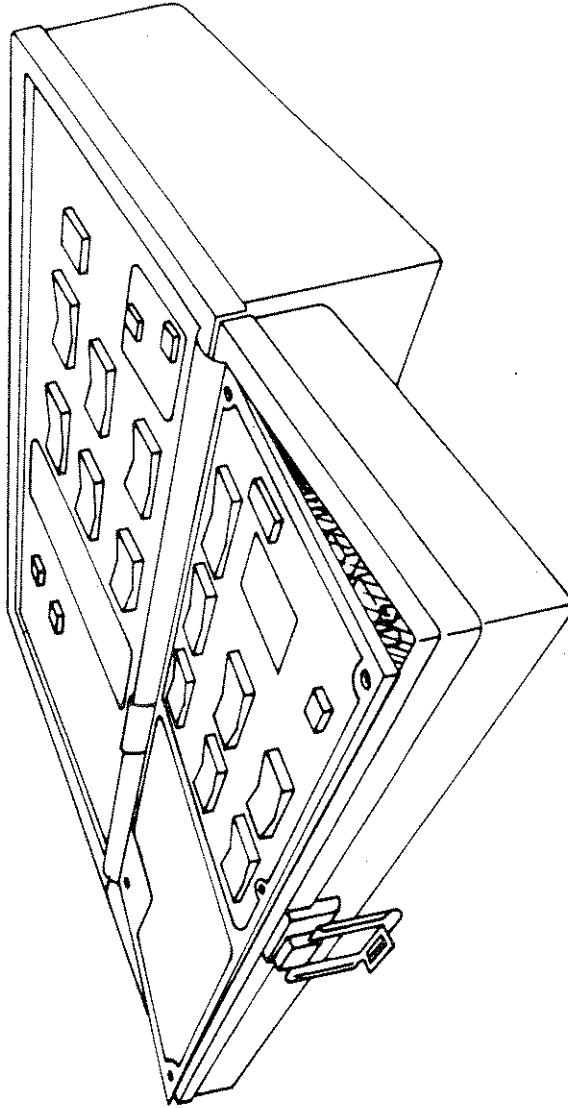

Figure B-3
3.	When the T1/T1C Transmitter Option has been released, grasp it by the sides and lift it out of the case at an angle away from the right side of the case (see Figure B-3).
1.	Gently place the T1/T1C Transmitter Assembly back into the lid. Angle the T1/T1C Transmitter Assembly the same way as was done in removal, with the bottom right edge going in first (see Figure B-3).